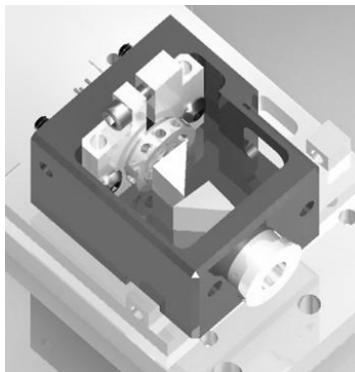

Figure 6 – Monolithic block Diode/ Optics /Fiber Construction on TEC
The first key to CUBE’s superior stability is the modular design built around a rugged monolithic construction. As shown in Figure 6, a one piece metal brass block contains the diode, collimation lens and optional anamorphic prisms for beam circularization. In Fiber Pigtailed (FP) series products, the block also includes the laser welded coupling lens and fiber launch. Enclosing all alignment-critical elements in this monolithic block offers two advantages. First, the entire block can be precisely temperature-controlled using a sensor and thermoelectric (TE) cooler. This makes laser alignment immune to any effects caused by changes in ambient temperature. Just as important, this monolithic block approach is the best to secure the internal optical alignment of a CUBE laser from outside vibrations and shocks. This makes CUBE lasers ideal for use in systems in industrial and other harsh settings and also makes them well suited for use in instruments with moving parts and potential resonances. CUBE lasers deliver the same performance whether they’re sitting on an optical table in a temperature controlled lab, or mounted on a noisy production line taking real time data in industrial environments.